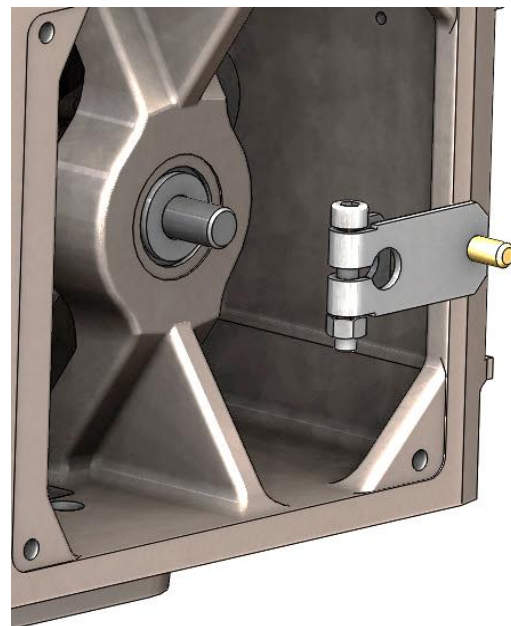

Figure 14: MaxFlo Take Off Arm
- 1 Slide the take-off arm onto the shaft. Insert the screw with the star washer through the take-off arm and add the second star washer and nut. Tighten the nut with a socket, so the arm is just snug on the shaft but still able to rotate. Tightening will occur after linkage is correctly oriented. Refer to Figure 14: MaxFlo Take Off Arm.